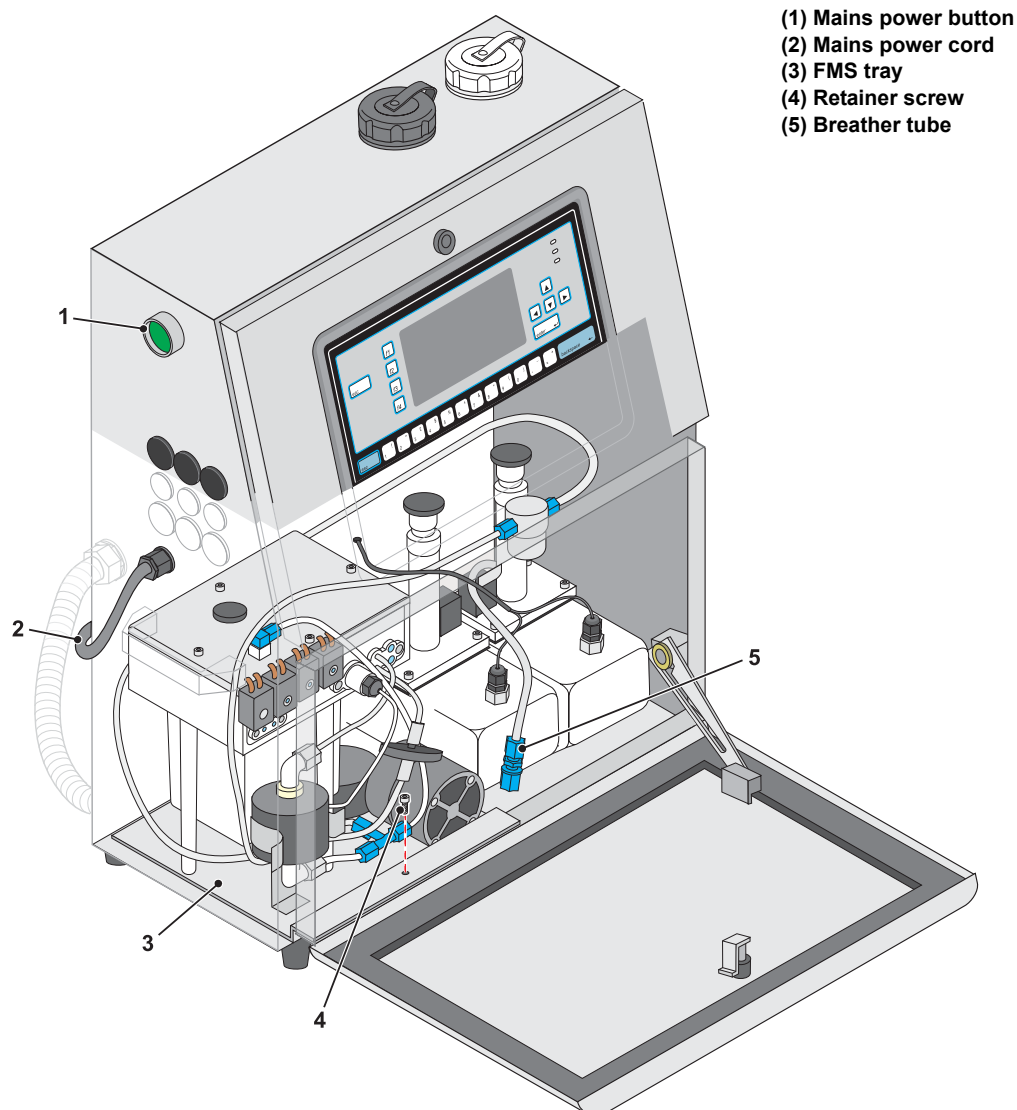

Figure 2-1. Beginning the commissioning process
- 1 Open the ink compartment door as shown in Figure 2-1.
- 2 Remove the retaining screw (Item 4 in Figure 2-1) and lift the FMS tray (3) forwards and out of the printer.
- 3 Remove the blue bulkhead fitting from the end of the breather tube (5) and attach the fitting to the round hole in the floor of the ink compartment (near the back wall, just to the left of the ink reservoir).